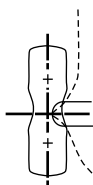
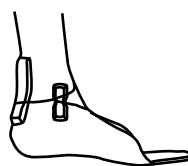

Fig. 6
Fig. 7
6. For planter flexion control - A"U" shaped section could be removed anterior to the midline of each cavity (Fig.6). Cut the AFO using a thin-bladed saw according to marking. (Fig.7).